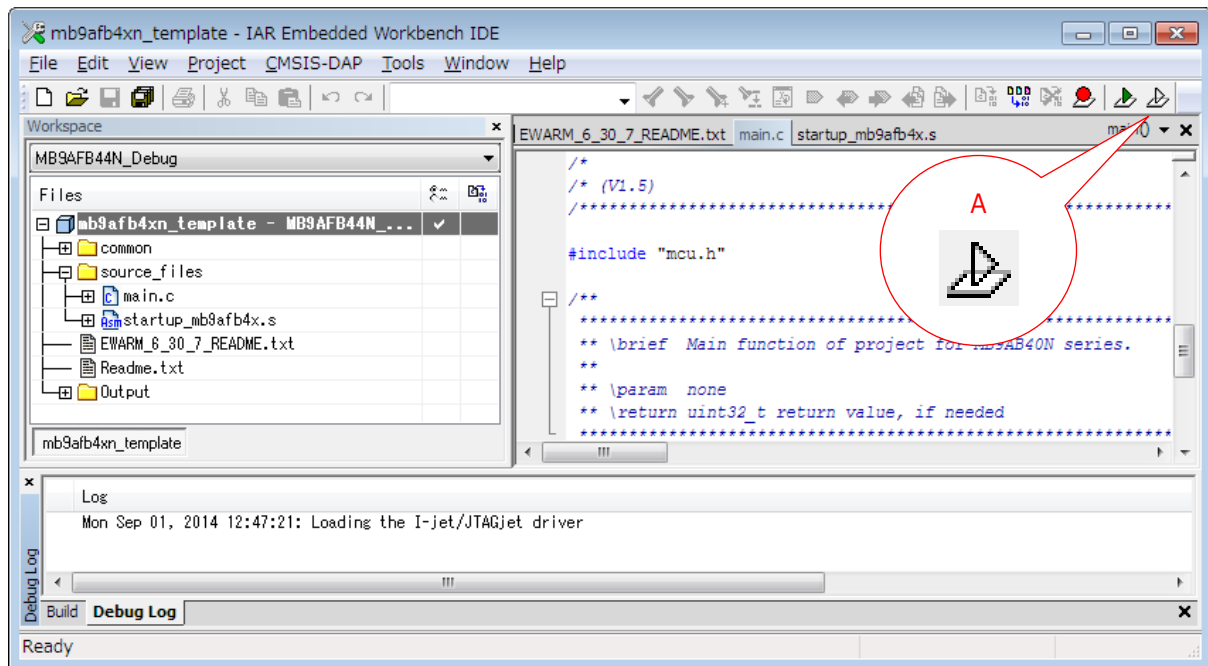

Figure 11
- 4) Pressing the "A" button as shown in Figure 11 starts a debugging session **without downloading binary data**.